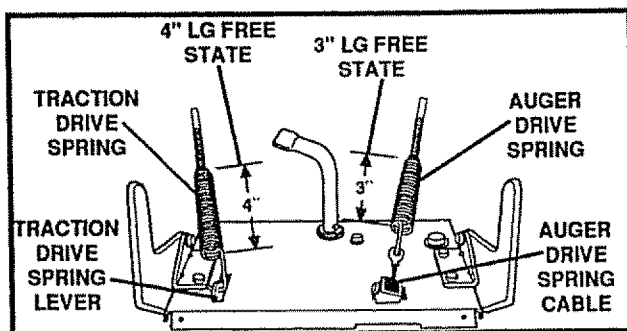
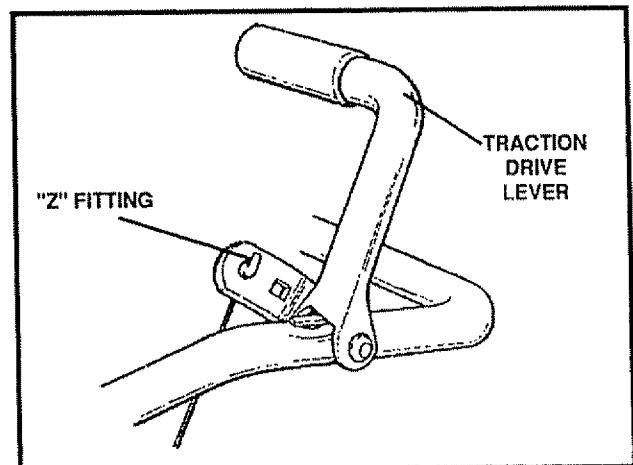

FIG. 3A
FIG. 3
**NOTE:** If the cables have become disconnected from the clutch levers, reinstall the cables as shown in Fig. 3 and Fig. 3A.